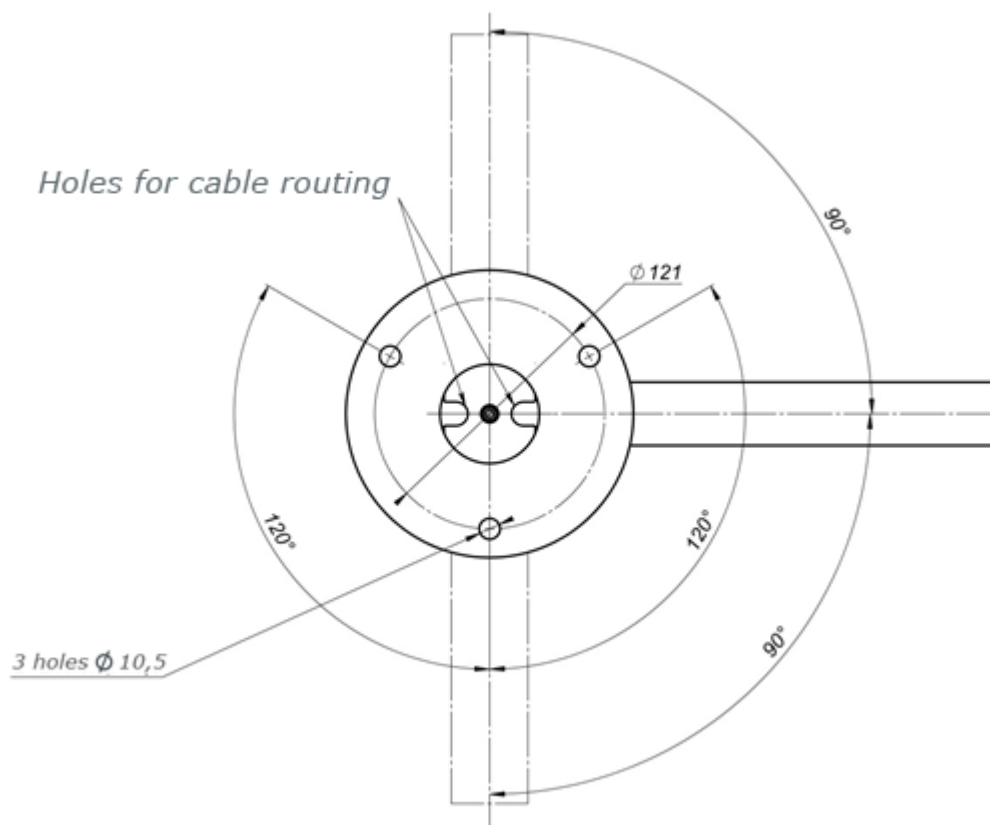

Fig. 3 Linkage dimension
7.2.5. Set the stand on prepared area (Fig. 3).